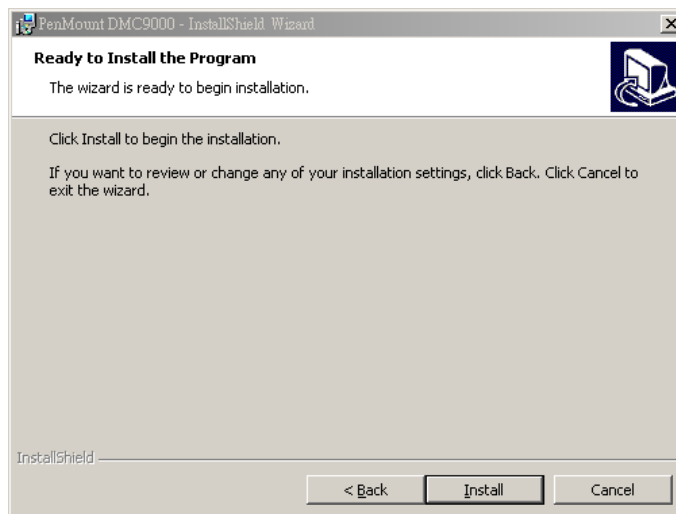

Figure 7-43: Ready to Install the Program
Step 5: Click **NEXT** and the Installshield Wizard is ready to install the program (Figure 7-43).